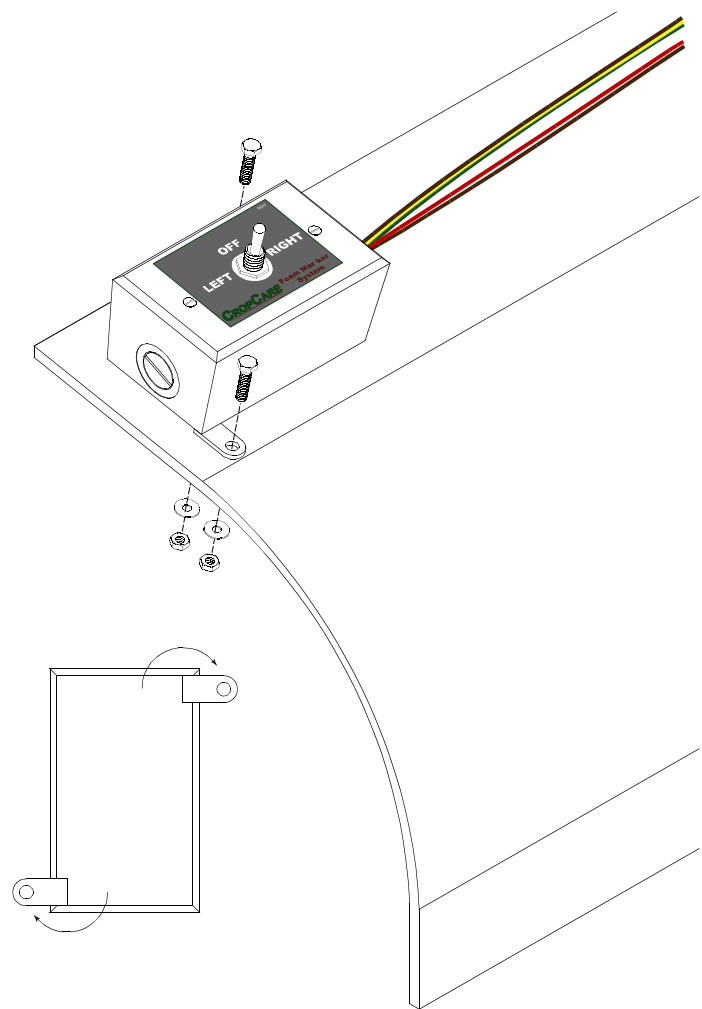

Figure 2: Control box mounting
4. You now need to mount the control box in a location where it is easily accessible for operation. There are two metal tabs with pre-drilled holes on the back of the control box that can be turned out for mounting. It is recommended to mount the control box using bolts through these metal tabs. See Figure 2 on page 3.